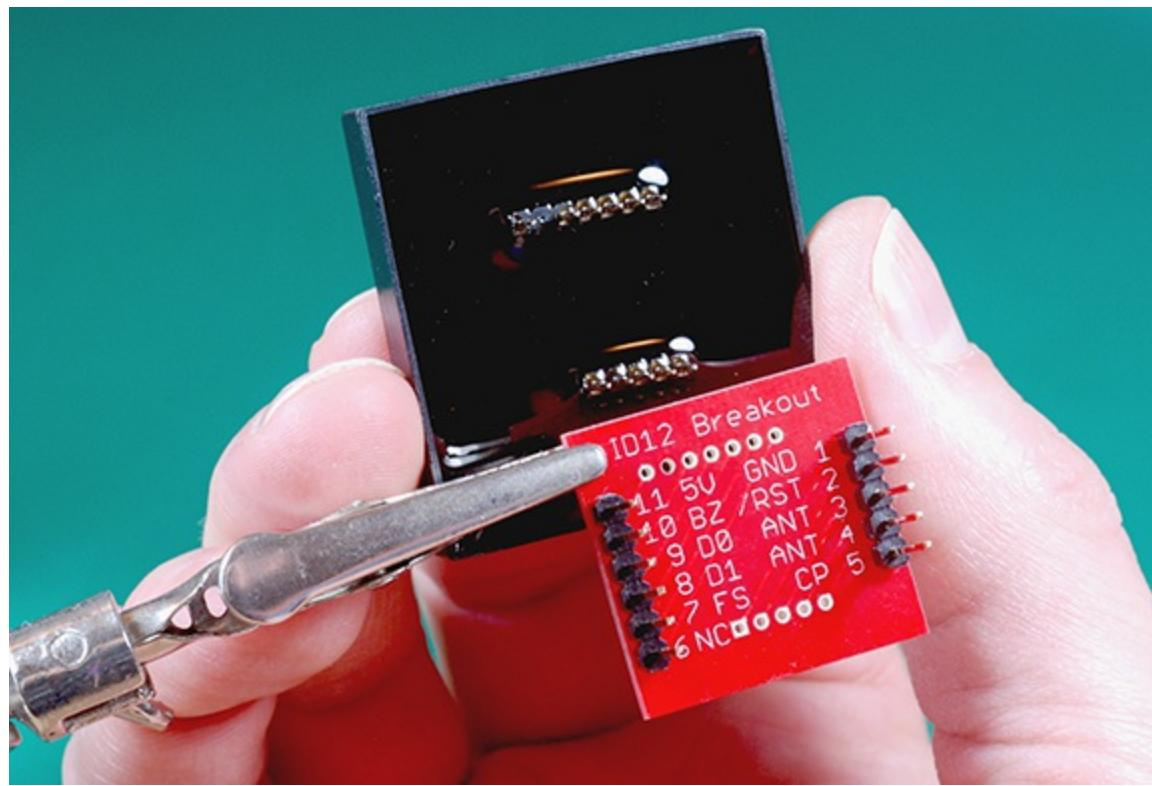

Figure 9-3: The SparkFun breakout board is keyed to fit the ID Innovations readers.
The SparkFun breakout board allows you to work with your reader on a breadboard, and it fits any of the ID Innovations readers (even though it's labeled ID-12). Their pins have a 2mm pitch, so they do not fit into a regular breadboard, which has holes spaced at 0.1" (2.54mm), so you have to use the breakout board for any prototyping. In fact, even if you aren't planning to use a breadboard, the breakout board is handy because the 2mm pins are really pretty inconveniently close together to work with. The breakout board also is registered to fit into the RFID reader in only the correct orientation. One of the pins on the reader is missing, and the breakout board aligns with this missing pin, as shown in Figure 9-3.
- 2. Insert the pins into your breadboard so that they can accommodate the breakout board, as shown in Figure 9-3.**